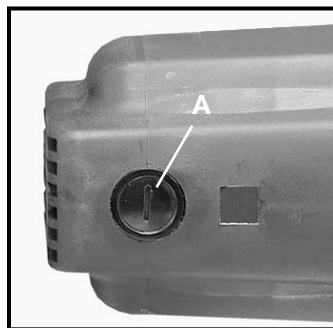
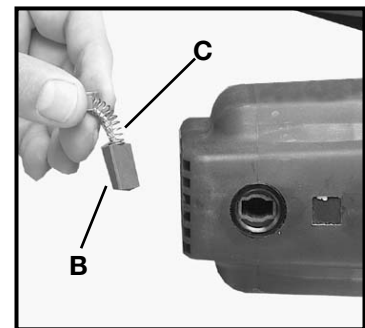

Fig. 44
Fig. 45
The brush holders (A) Fig. 44, are located on the motor housing opposite each other. Fig. 45, illustrates one of the brushes removed for inspection. When the carbon on either brush (B) is worn to 3/16" in length, or if either spring or shunt wire (C) is burned or damaged in any way, replace both brushes. If the brushes are found serviceable after removing, reinstall them in the same position.